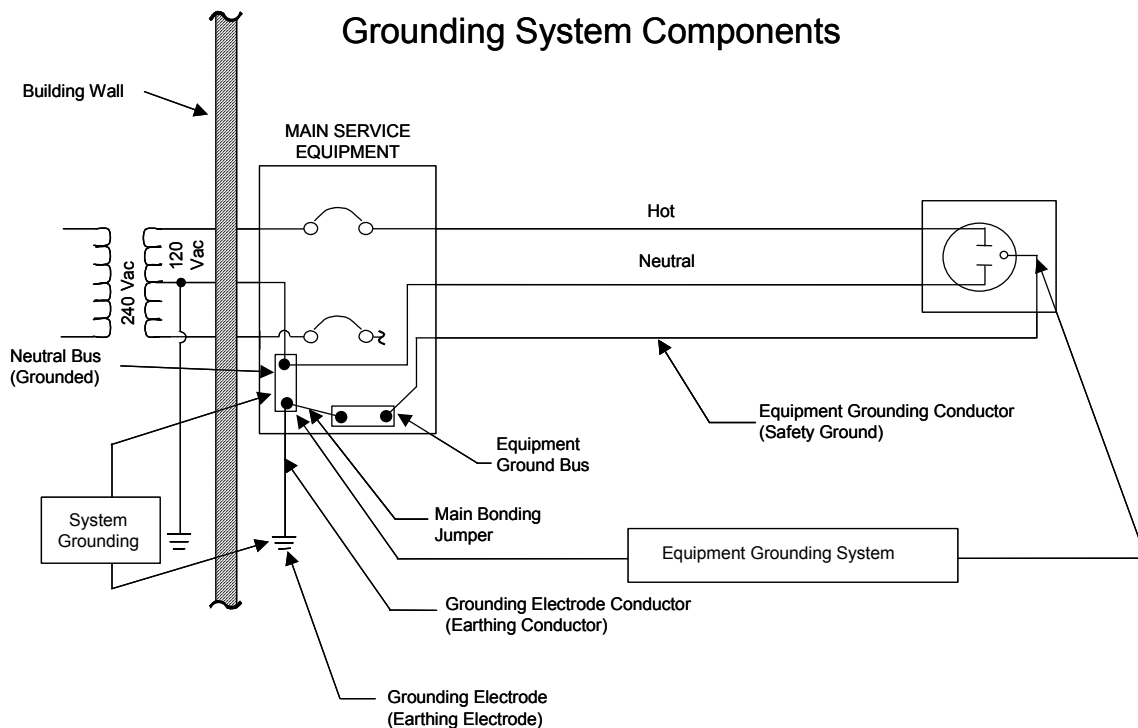

Figure 1 – Various components of the system and equipment grounding
1.) **System Grounding**, and 2.) **Equipment Grounding**. These two areas are often interchanged and the resultant misapplication of system and equipment grounding practices can lead to a system that is expensive, inefficient, and even unsafe. They are kept separate from each other except at the point where they receive their source of power, such as at the service equipment or at a separately derived system. The various components that make up the system and equipment grounding systems are illustrated in **Figure 1**.